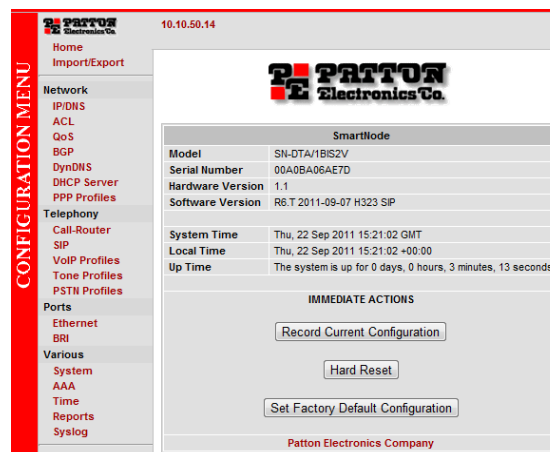

Figure 6. SN-DTA home page
3. Enter the username *administrator*. Do not enter a password. Instead simply click OK. Your web browser will display the SN-DTA home page (see figure 6).